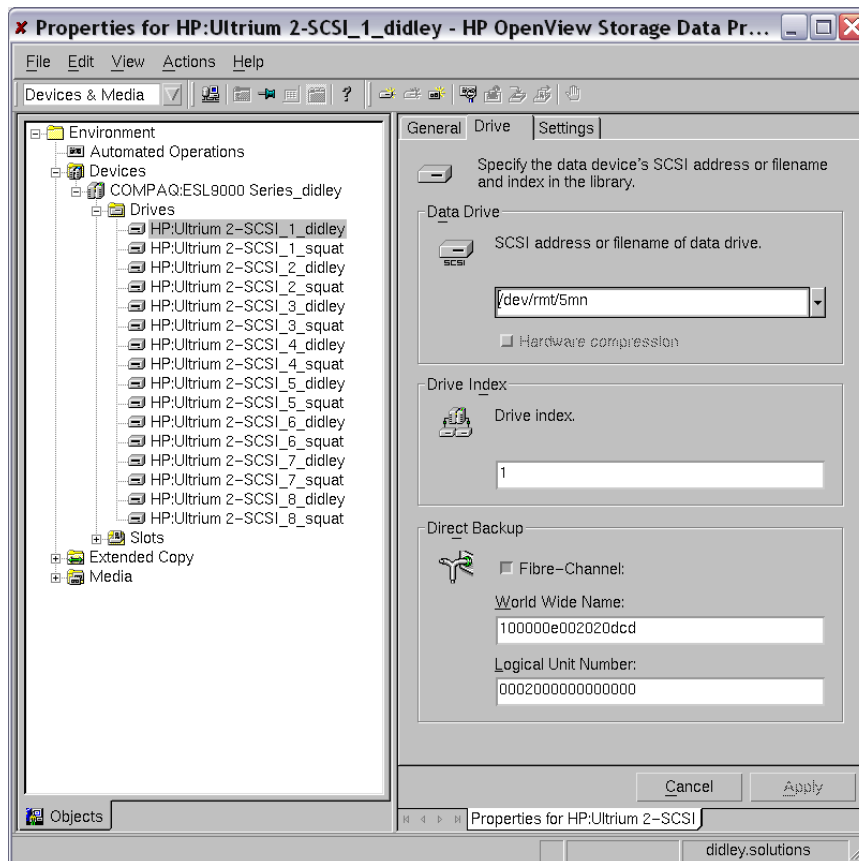

Figure 7: Setting tape device parameters
4. Set the tape device parameters in the **Devices & Media** window of the Data Protector GUI (see Figure 7):